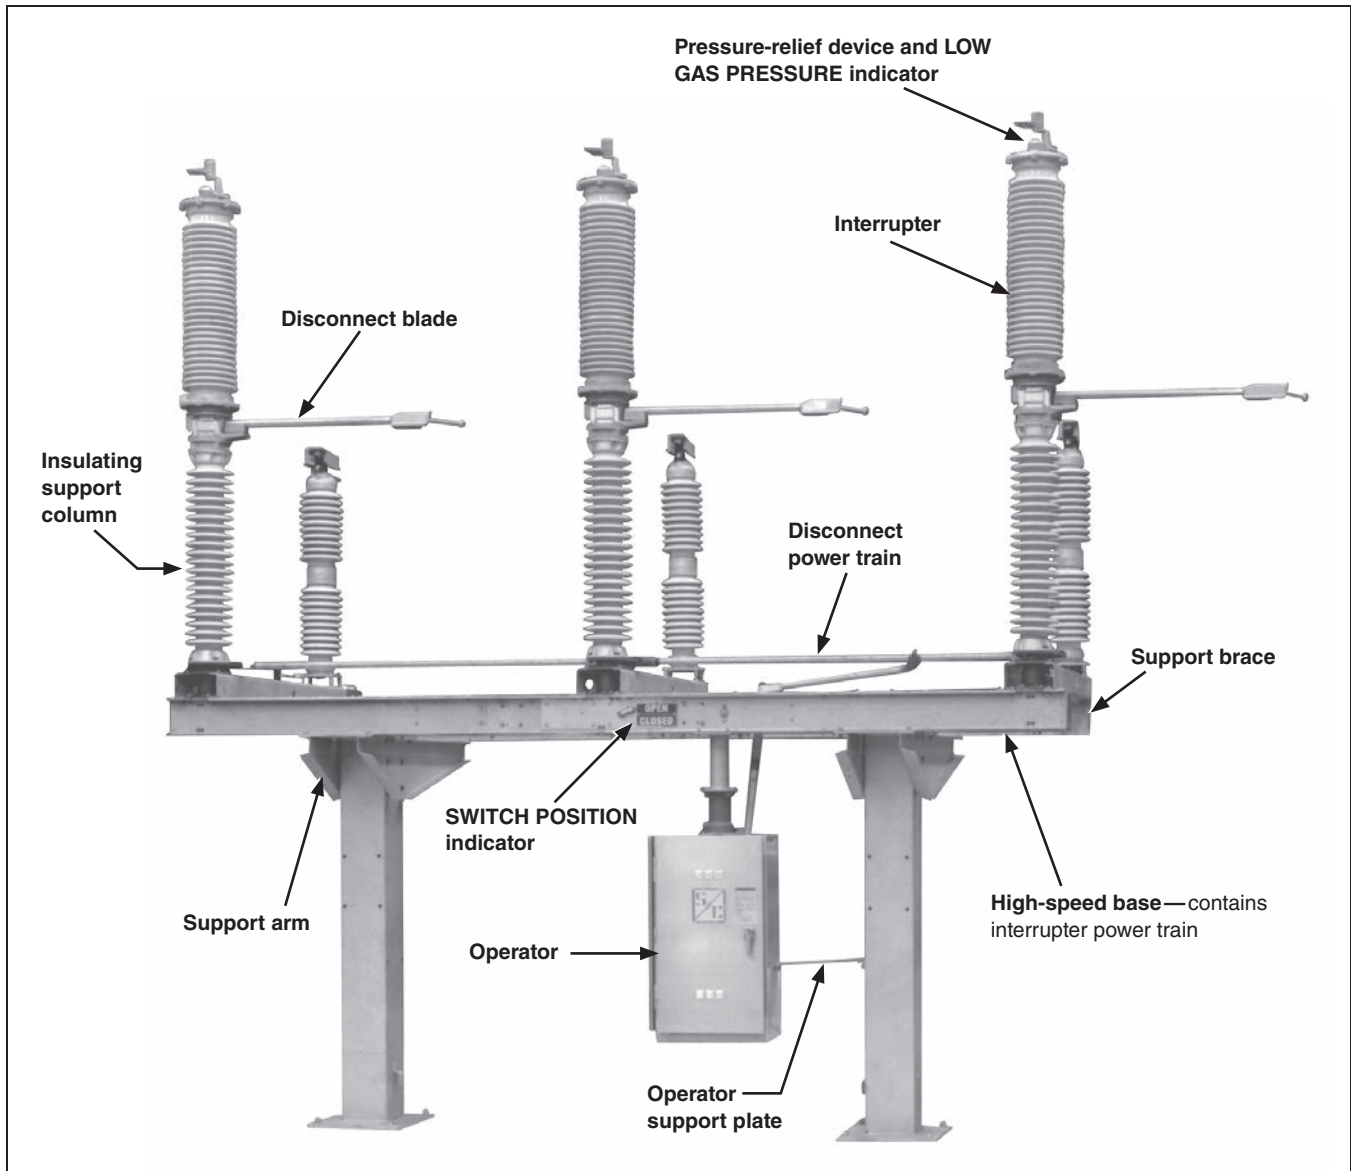
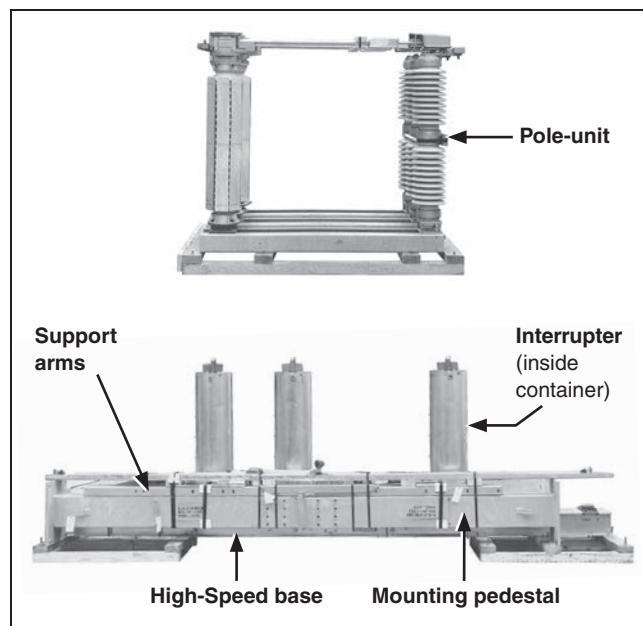

Figure 1. A Model 202 Series 2000 Circuit-Switcher rating 138 kV.
Figure 2. A typical shipment of a Model 2020 Series 2000 Circuit-Switcher. The operator is shipped on a separate skid.
An S&C catalog drawing is located in a water-resistant envelope attached to the wrapper around one of the insulating support columns. Study this drawing carefully and check the bill of material to verify all parts are available. The Model 2020 Series 2000 Circuit-Switcher shipment should include the items shown in Figure 1 on page 10 and Figure 2 on page 11.
- STEP 1.** Use a steel strapping cutter to cut the steel straps binding the mounting pedestals and support arms to the high-speed base. Also cut the straps binding the container of operating mechanism components and hardware and the straps that bind the pole-units. See Figure 2.
- STEP 6.** Attach the support arms to the mounting pedestals as shown on the catalog drawing using $\frac{5}{8}$ -11 \times 1 $\frac{1}{4}$ -inch hex-head galvanized steel cap screws and flat washers furnished. Torque the cap screws to 75 ft-lbs (101.7 Nm). See Figure 1 on page 10.